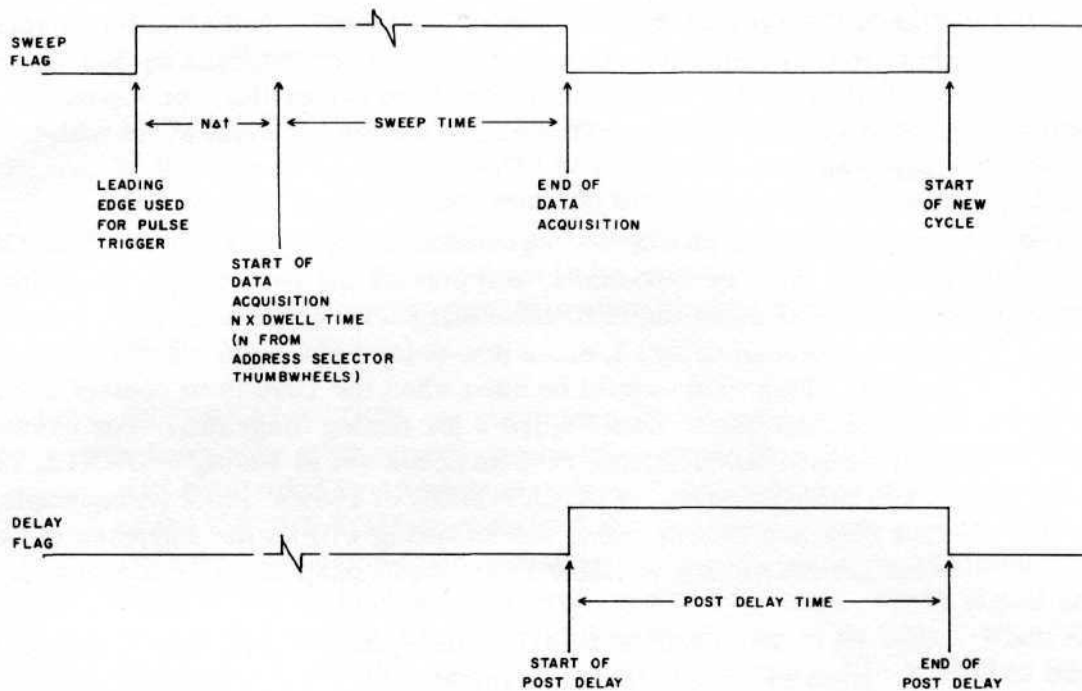

Figure 6. Timing Diagram When Using EXTRA DELAY ENABLE Mode
- V EXTRA DELAY MODE — Grounding this pin, placing the TRIGGER switch in the + or - position, and placing the DELAY switch in the POST position will allow the ADDRESS SELECTOR thumbwheel switches to insert a second delay, i. e. , a pre-delay before the start of data accumulation. This mode would be used when the 1080 is to control the timing of the experiment. (See Figure 6 for timing diagram.) For example, with the ADDRESS SELECTOR switches set at 00004, a DWELL TIME of 100 microseconds, a DELAY TIME of 1804 x 100 microseconds, and 8192 data points (8K) used, the following will be the sequence of events when the MEASURE (WIRED PROGRAM) pushbutton is depressed:
- (1) The SWEEP FLAG signal (pin S) will go high (this can be used to trigger the experiment).
- (2) For exactly 400 microseconds (ADDRESS SELECTOR switch setting multiplied by DWELL TIME switch setting, i.e. , 4 x 100) no data will be accumulated.
- (3) At the end of this delay period data accumulation will start and continue for 819,200 microseconds (number of data points multiplied by DWELL TIME switch setting, i.e. , 8192 x 100).
- (4) At the end of this sweep period, the SWEEP FLAG signal will go to ground and the DELAY FLAG signal (pin A) will go high for 180,400 (1804 x 100) microseconds.
- (5) At the end of this second delay period, the cycle restarts.